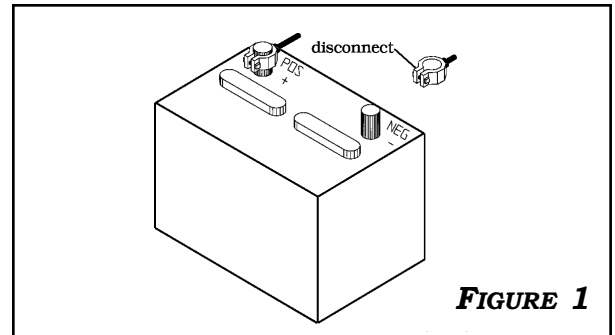

FIGURE 1
1. DISCONNECT NEGATIVE BATTERY CABLE BEFORE INSTALLATION. FIGURE 1